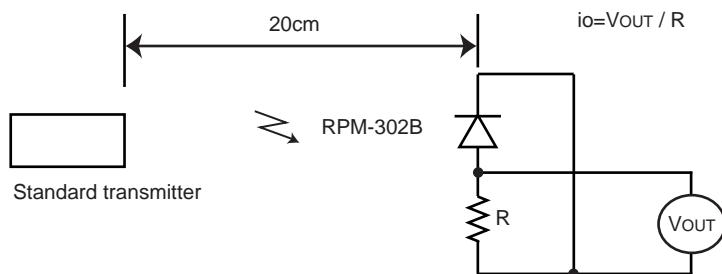

Fig.2 Measurement of standard transmitter proofreading
When standard transmitter output the signal at Fig.1 standard photodiode output become $io=5\mu\text{A}_{\text{p-p}}$ under the measurement condition Fig.2.
(1) All characteristics of the receiver in this specification are specified by supplying burst wave form (Fig.1) with ROHM standard transmitter (Fig.2).